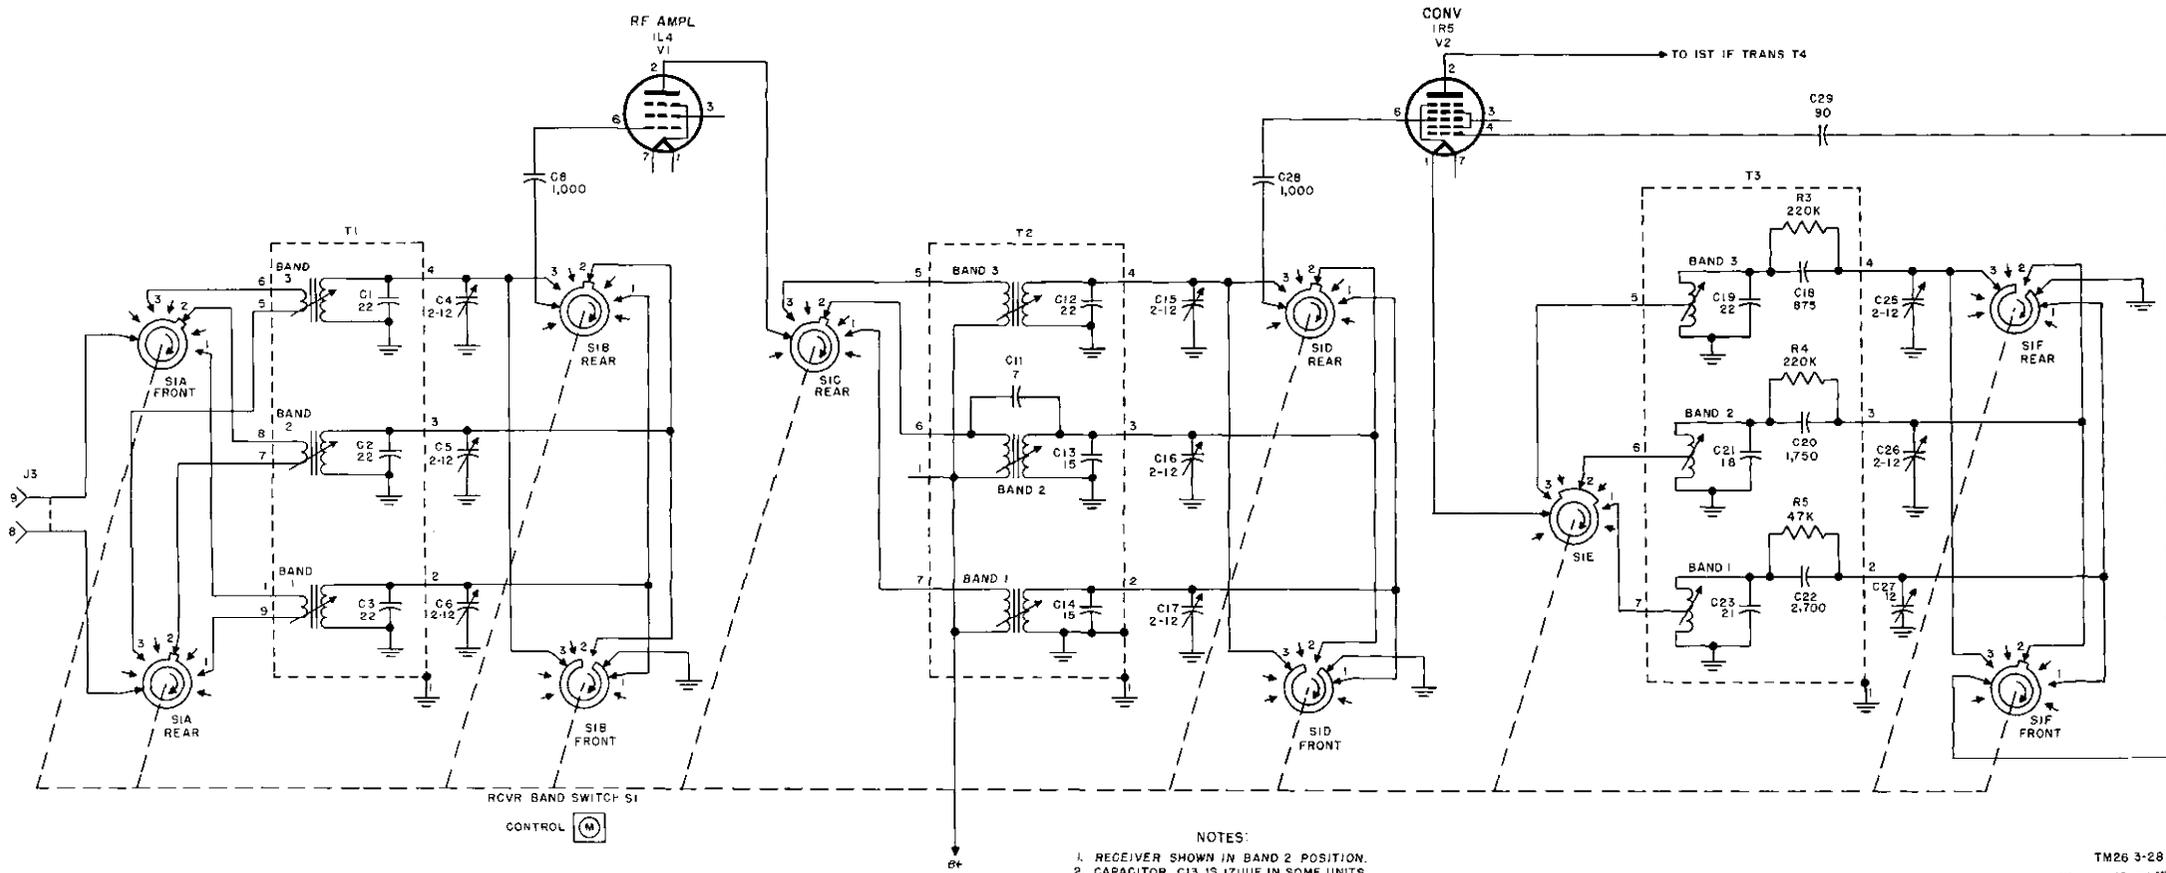

Figure 59. Band changing circuit, simplified schematic diagram
c. The amplified output of V1 is applied across second rf transformer T2, the secondary of which is brought to resonance by section C7B of the ganged TUNING capacitor. Considering band 1 only, capacitor C7B works in conjunction with trimmer C17 and fixed capacitor C14. The signal leaves T2 and is coupled by capacitor C28 to the control grid of converter tube V2. On band 2, capacitor C11 (fig. 59) improves the coupling at the higher frequencies.
b. The resonant circuit in the oscillator portion of V2 is formed by one coil of T3, which is selected by band changing switch section S1F (fig. 59). Band 1 is tuned to resonance by variable TUNING capacitor C7C, control (N), adjustable trimmer C27, and capacitor C23. Capacitor C23 is used as a frequency corrector for temperature changes. When the temperature increases, the coil inductance increases, thus
### 89. Band Changing Circuit (fig. 59)
d. The filament of V2 is connected to hf oscillator coil by band switch section S1E, control ⑦ (fig. 59).